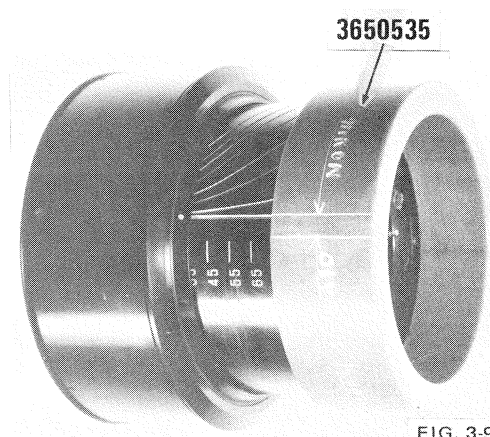

FIG. 3-9
d) Place the angle setting tool No. 3650535 over the rear of the lens as shown in Fig. 3-9.
e) Rotate the tool until the correct scribed angle setting line for the lens is aligned with the center of the infinity index line. Fig. 3-9.